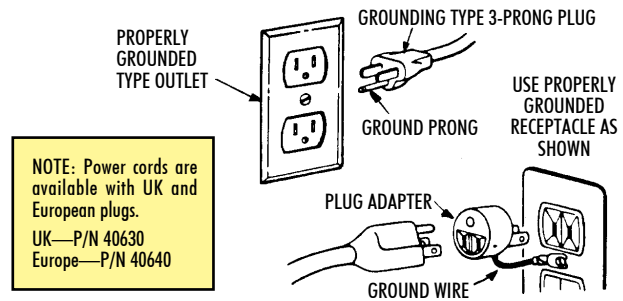

FIGURE 1—Proper grounding for electrical connections.
2. Ground All Tools—If a tool is equipped with a three-prong plug, it should be plugged into a three-hole receptacle. If an adapter is used to accommodate a two-prong receptacle, the adapter wire must be attached to a KNOWN GROUND. Never remove the third prong. (See Figure 1.)